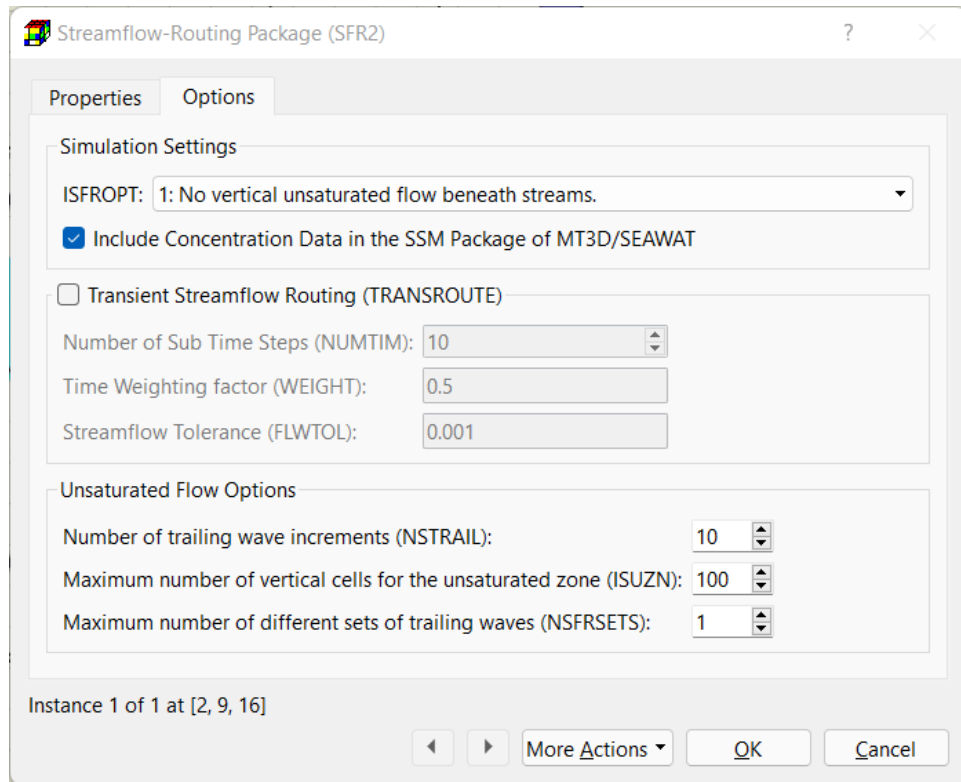

Figure 91. The Options tab of the Streamflow-Routing Package (SFR2) dialog box
1. All input methods: The data-entry dialog boxes of all input methods contain an Options tab (Figure 91) with the following common data.